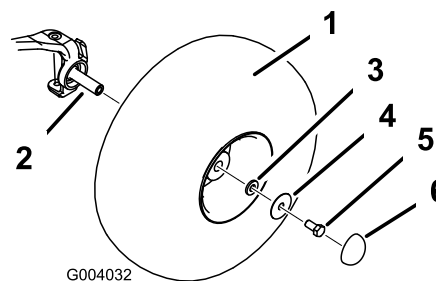

Figure 4
4. Mount the wheels with the previously removed fasteners (Figure 4) and torque the bolts to 135-165 ft-lb (183-224 N-m).